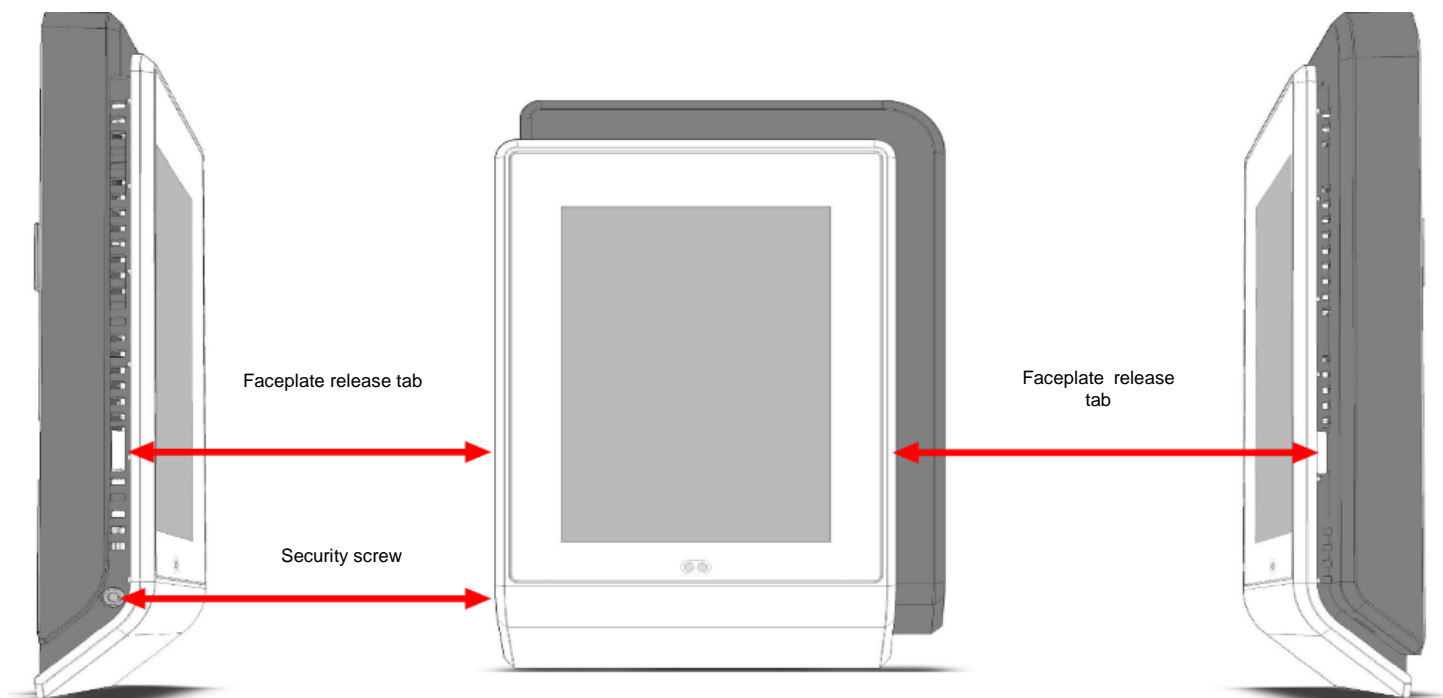

Figure 3- Security Screw and Faceplate Tab Locations
- b. Using an appropriately sized tool, press in the two (2) release tabs on the sides of the device and pull the front cover out from the bottom. See *Figure 3* for security screw and release tab locations.